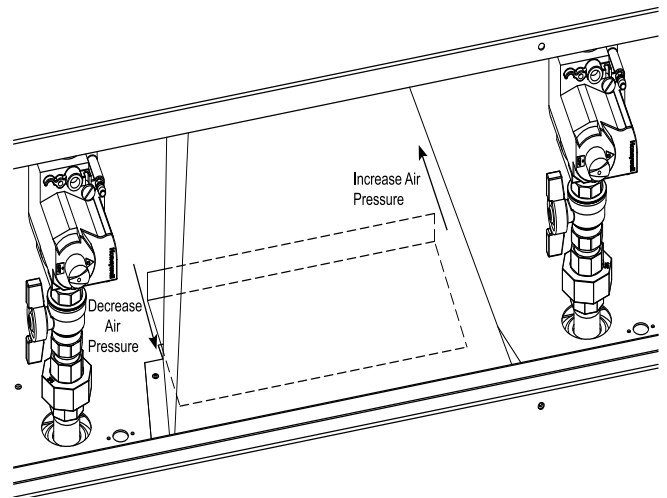

Figure 47 - Adjusting Air Shutter
3. Locate the air shutter at the rear of the fan duct (see Figure 47). Move the air shutter towards the rear of the unit to increase air pressure. Move the air shutter towards the front of the unit to decrease air pressure.